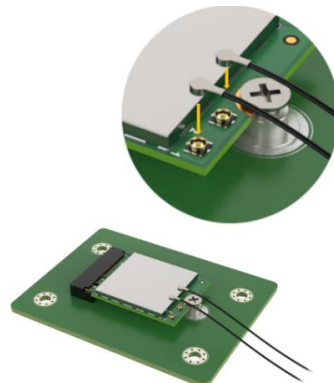

Figure 3-18: Secure WLAN Module and Connect RF Cables
Step 4: Secure the WLAN module. Secure the WLAN module with the retention screw previously removed (Figure 3-18).
Step 5: Connect the two RF cables to the antenna connectors on the WLAN module (Figure 3-18).